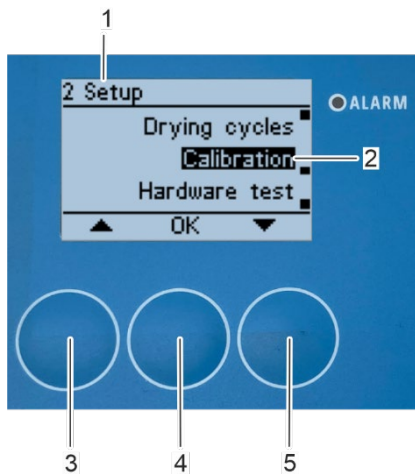

Fig. 137: Open submenu „Calibration“
⇒ The "2 Setup" submenu appears on the display again (Fig. 137/1).
1. To perform a renewed calibration, select the “*Calibration*” submenu (Fig. 137/2) with the arrow keys *[up]* (Fig. 137/3) and *[down]* (Fig. 137/5) in “2 Setup” submenu (Fig. 137/1).
2. Confirm the selection with *[OK]* (Fig. 137/4).